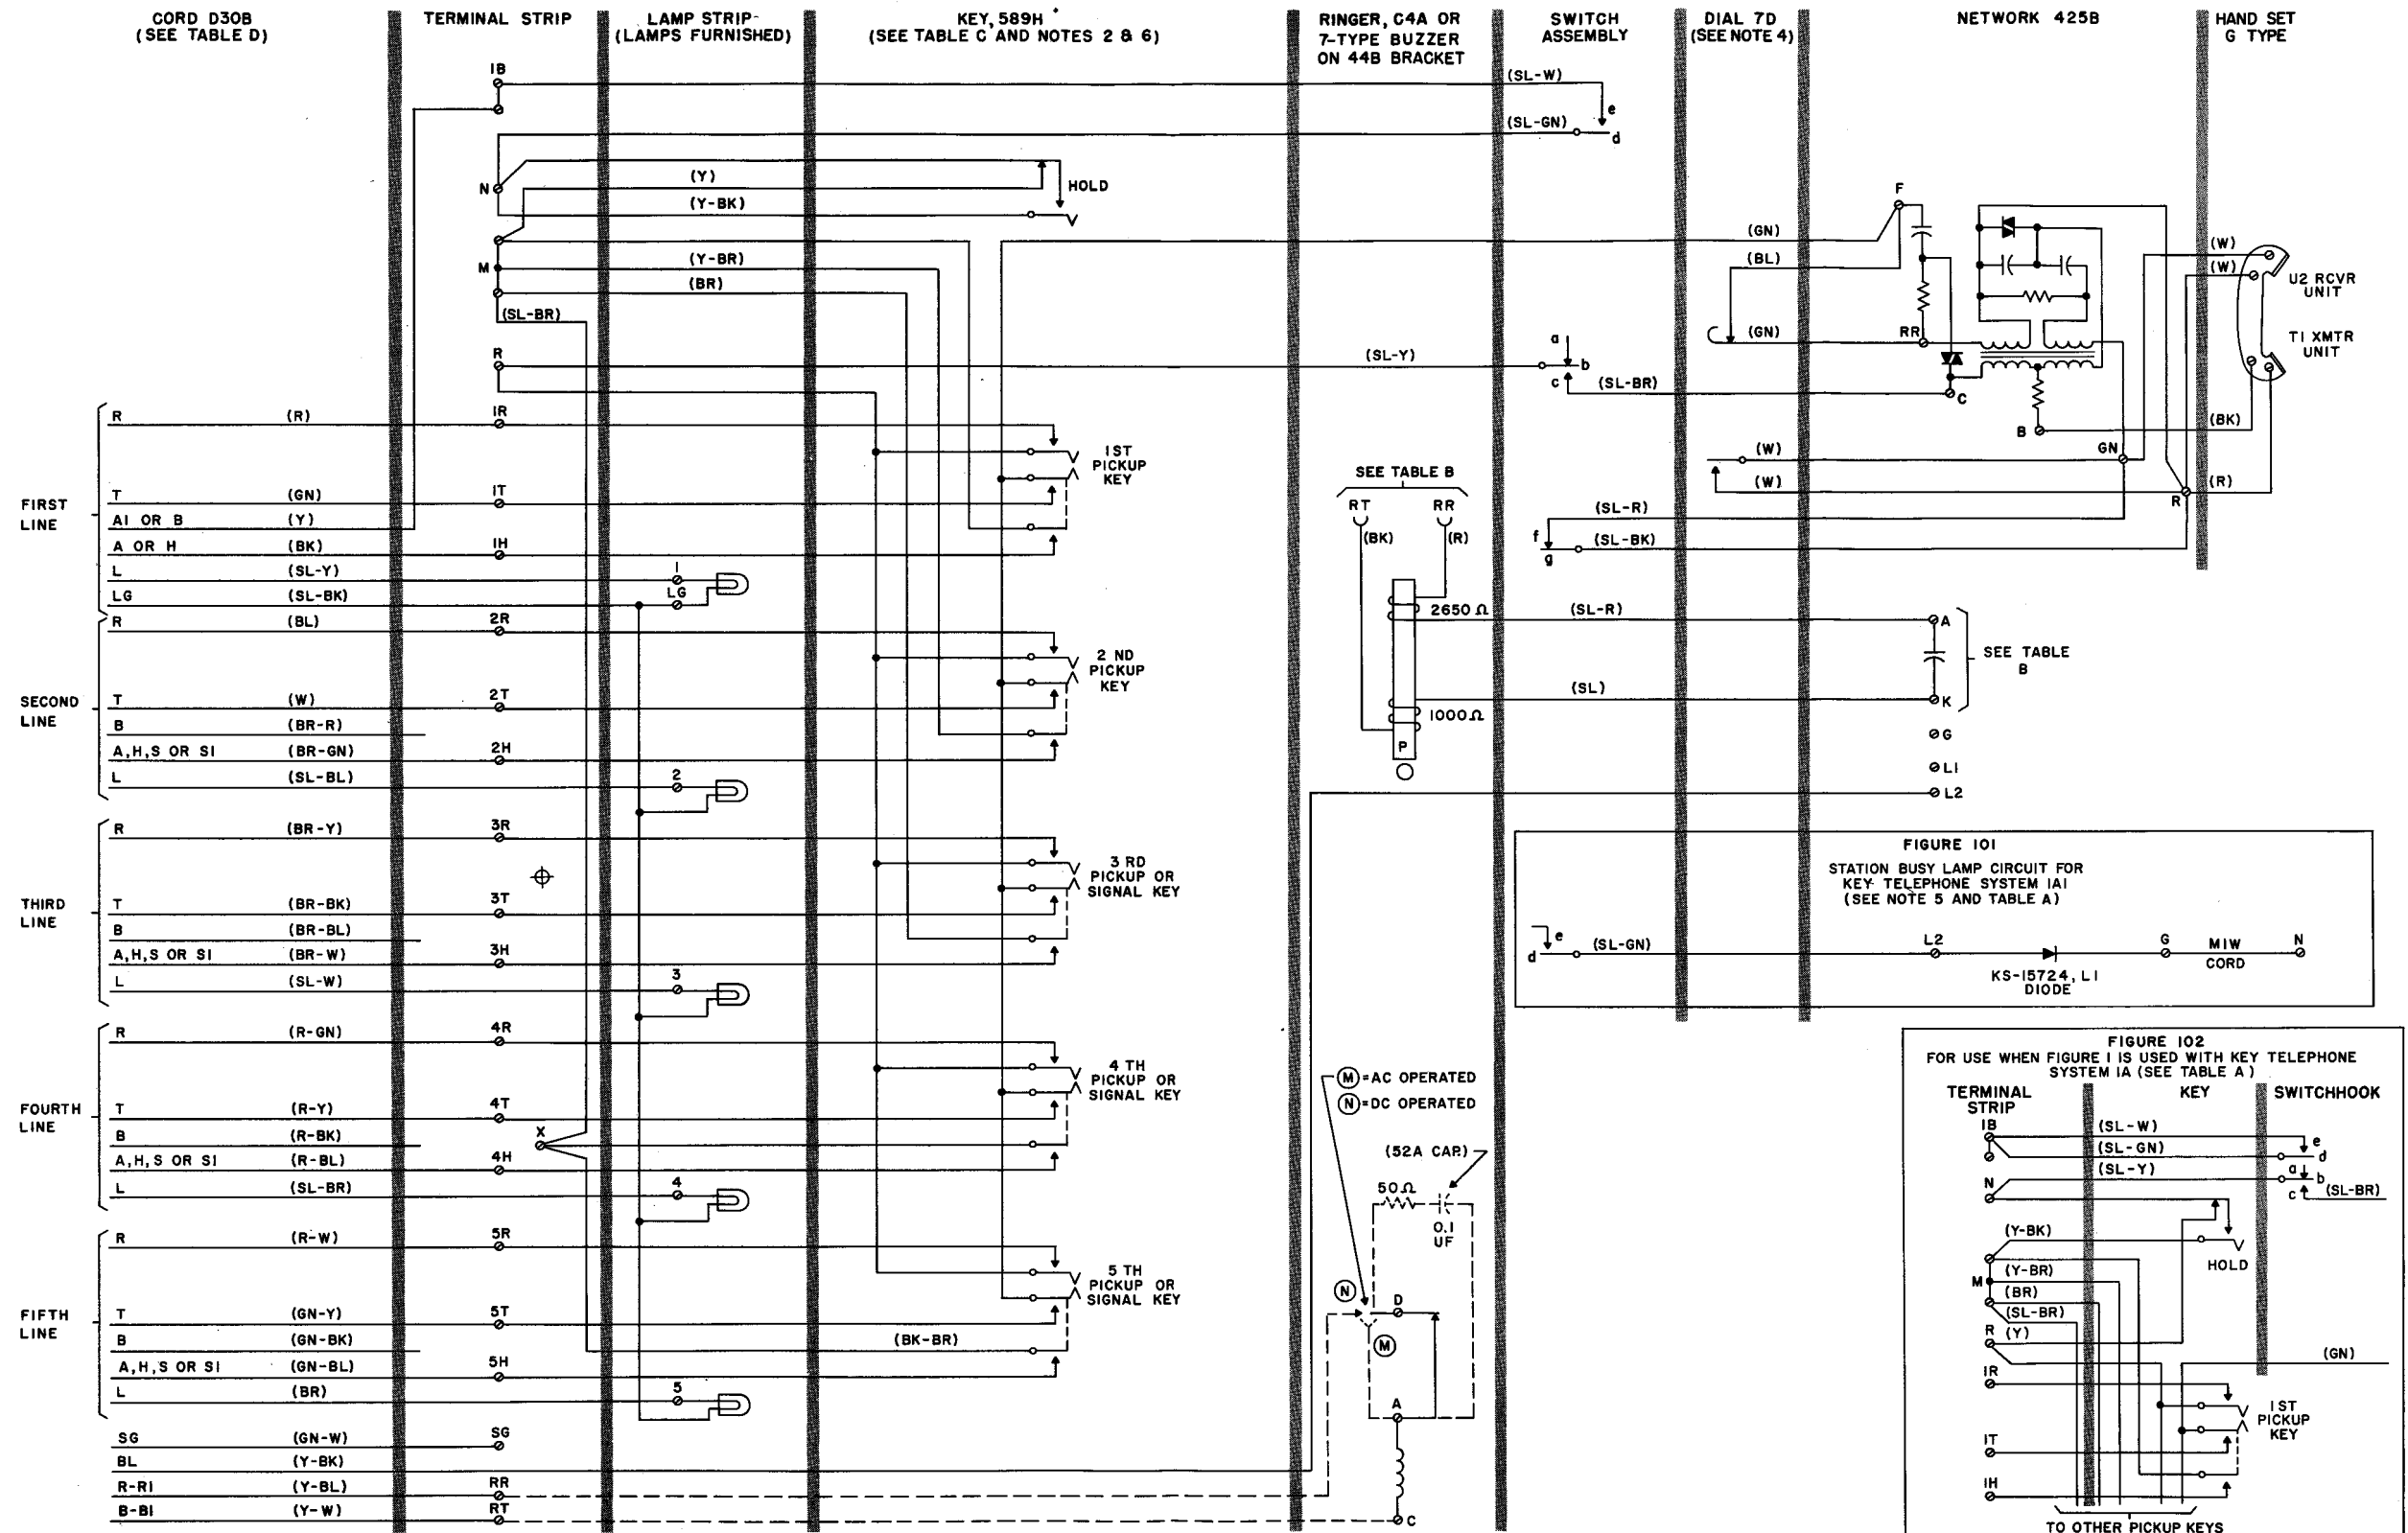

Fig. 1 - Key Telephone Sets, Common Battery Connections
2.01 The 564HDR telephone set is shop-wired for use with 1A1 key systems. Conversion tables used in conjunction with Fig. 1 are for rearrangement for various applications. The information notes should be used in determining the methods of connection.
TABLE A OF FIG. 1, 101, AND 102
TABLE B OF FIG. 1
TABLE C OF FIG. 1
1. All convertible key positions are arranged in the shop as pickup positions. To convert a key position from pickup (locking) to signal (nonlocking), remove the screw detail (P-12A892) and store the removed screw (or screws) in notches furnished on the edge of the 589H key in the set for this purpose. Make the necessary connection changes as shown in Table C of Fig. 1. To convert a key position from nonlocking to locking, reverse the above procedure.
2. When using the arrangement for a common-signaling key for two or three private or intercommunicating lines as provided in Table C of Fig. 1, the 6th key is converted to nonlocking and is used as the signaling key. The signaling is directed to the *S* or *S1* lead of the 2nd, 3rd, or 4th line, as required, through the cross connections shown in Table C for Fig. 1. The automatic-cutoff feature of Key Telephone System No. 1A1 cannot be used on a line connected to the common-signaling key.